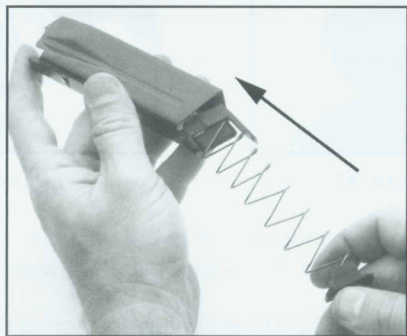

Figure 34
2. Insert the follower and magazine spring into the magazine housing as depicted in Figure 34.
4. Push the floor plate over the base of the magazine housing and the locking plate from front to rear. Make sure the floor plate is fully seated on the magazine housing and the locking detent on the locking plate fits within the hole in the floor plate (Figure 34).